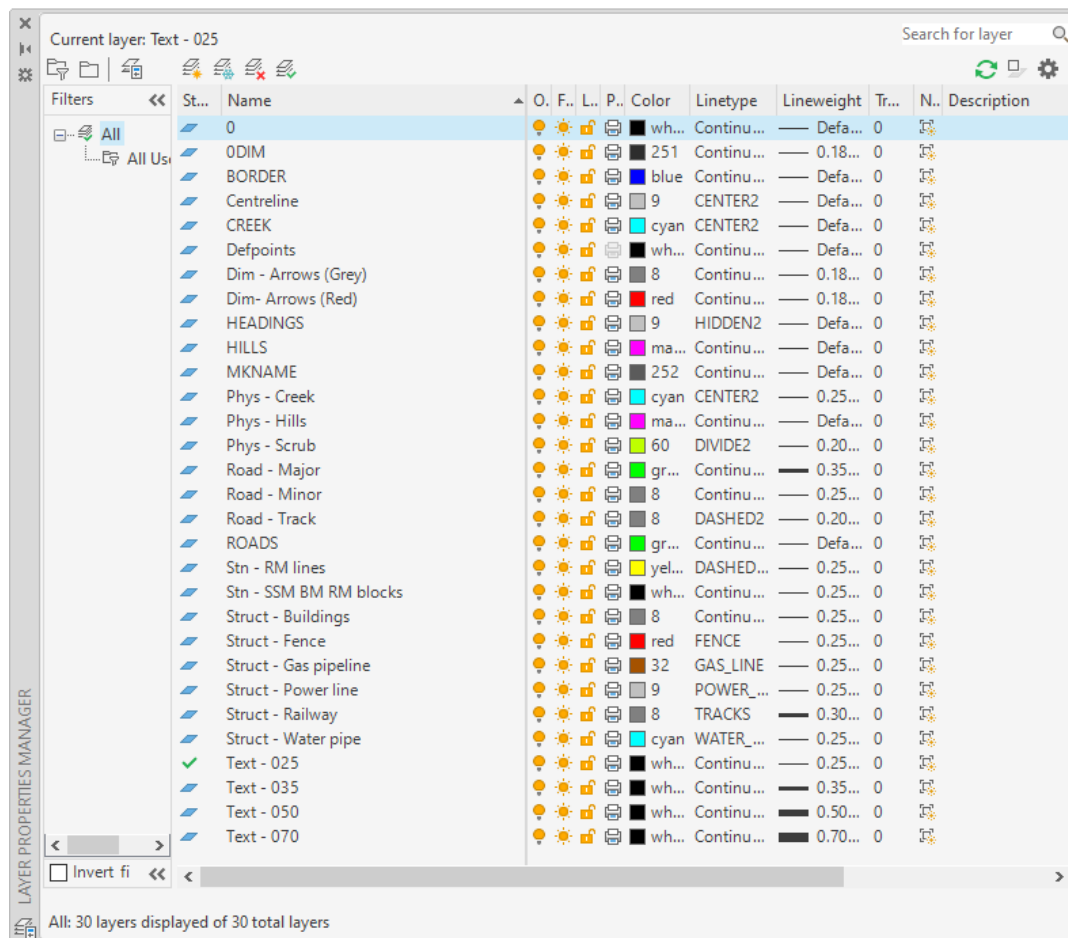

Figure 3 – Pre-defined layers in the template
5.3.1 Standard layers and their specific settings are defined as shown in **Figure 3**. To be consistent with the Colour Table (.ctb file) settings when printing or plotting, additional layers should **not** be created.